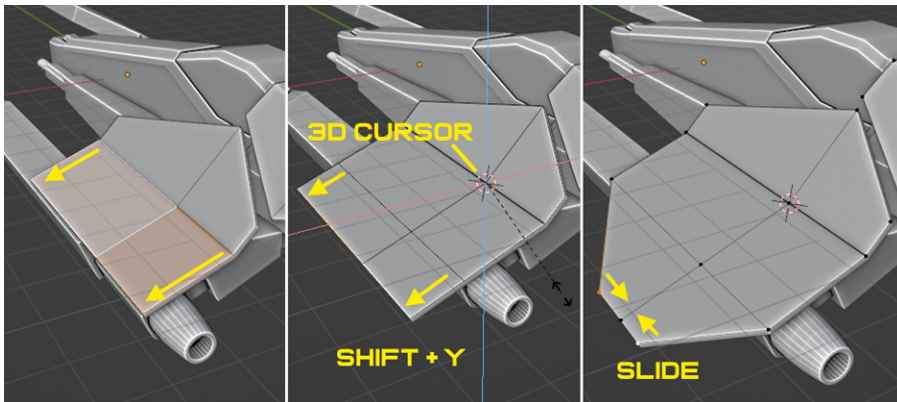

Figure 5.37 – Shaping the wing armor
8. When extruding new parts of the armor panel, you can ensure they have the same angle as another face by extruding the edge first and then scaling it outward using the 3D Cursor, as shown in the middle panel of *Figure 5.37*.